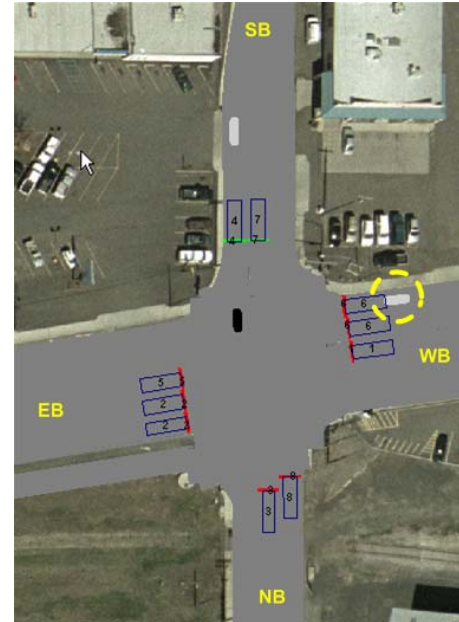

Figure 17 Intersection at simulation time step 38.9 seconds
- Press "Run Mode Single Step" until you see the vehicle on the WB approach, the circled vehicle in Figure 17. How does this vehicle affect the status of detector 6?